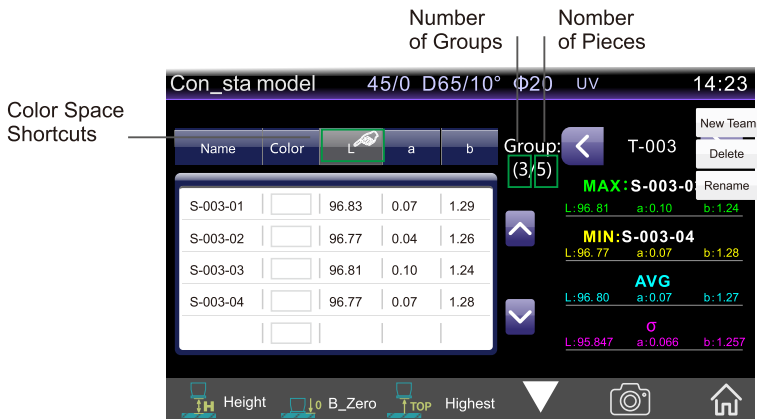

Figure 17-1 Group Test Setting Method
- 9) Click the group name to display the new group, delete the group, rename the group and other pop-up boxes (Figure 17-1), and you can operate the group.